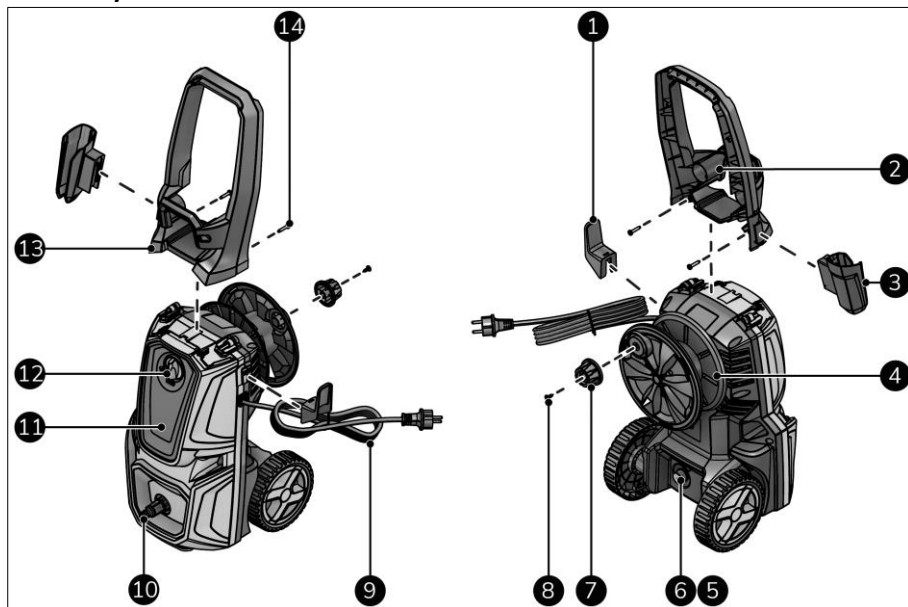

Figure 4
This EUROM device is an easy-to-use high-pressure cleaner (Figure 4). The device is designed for household use, such as cleaning vehicles, buildings, terraces, facades and garden equipment.
1. Make sure the ON(I)/OFF(0) switch is in the OFF(0) position (Figure 4, pos. 12).
5. Switch the device on (Figure 4, pos. 12).